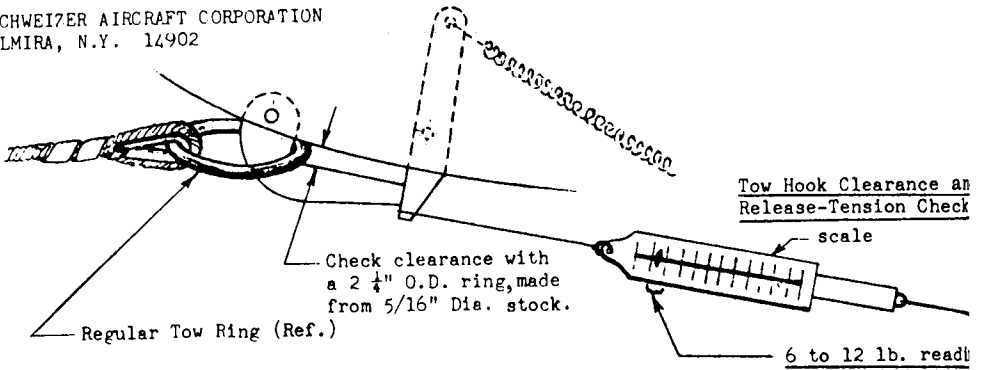

FIGURE 2.
- d. Tow hook release spring tension is checked by applying a force of 6-12 lbs, at the end of the release arm. The hook should then release. If the tension is not within this tolerance, the spring should be replaced. See Figure 2.
- c. Check release mechanism by applying a force of 6-12 lbs. Ref. paragraph B. 3. d. and Figure 2.